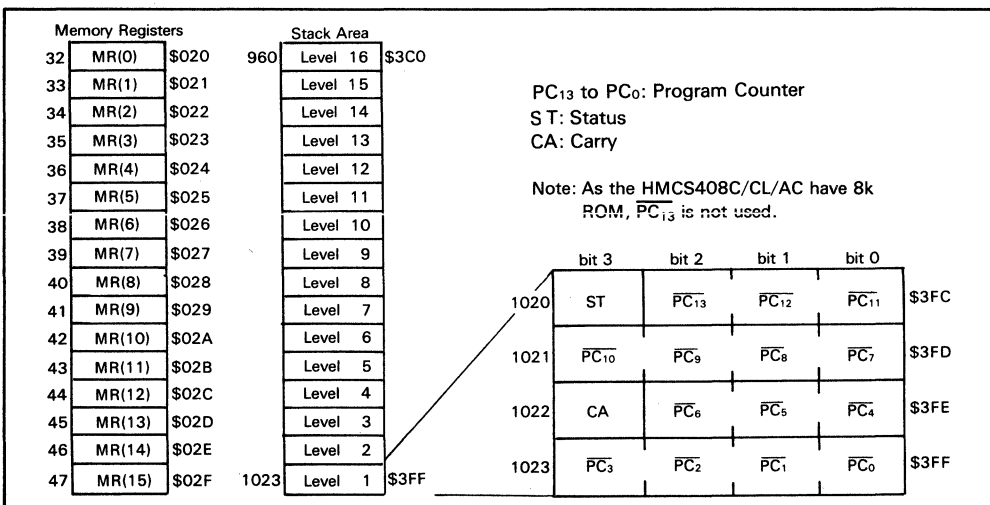

Figure 4. Configuration of Memory Register, Stack Area and Stack Position
Data Area (\$020 to \$1DF): 16 digits of \$020 through \$02F are called memory registers (MR) and are accessible by LAMR and XMRA instructions (figure 4).
broutine call (CAL-instruction, CALL-instruction) and interrupts are serviced. This area can be used as a 16 nesting level stack in which one level requires 4 digits. Figure 4 shows the save condition. The program counter is restored by RTN and RTNI instructions. Status and carry are restored only by RTNI instruction. This area, when not used for a stack, is available as a data area.